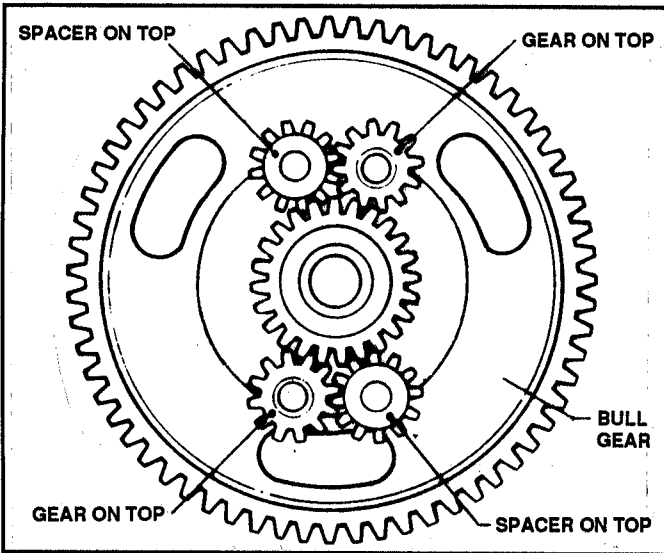

FIGURE 4.29
8. Install four twelve-tooth pinion gears and spacers in staggered position - spacer below one gear and above on the next. See Figure 4.29.